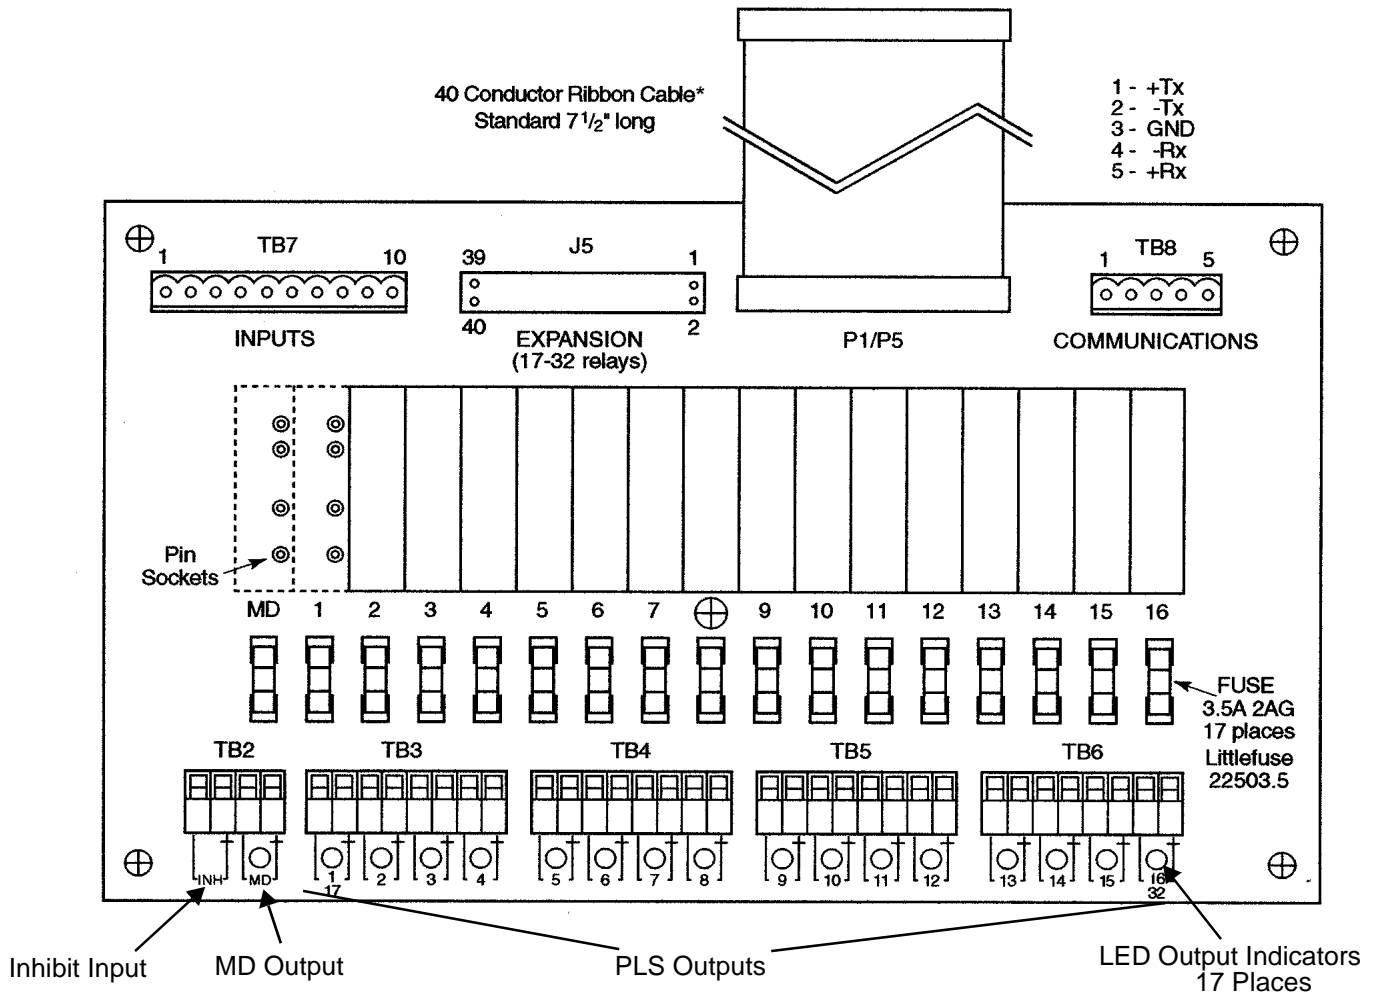

Figure 2.12 RB-1 Relay Board I/O Connections
**PLS Outputs** The location of the connector pins for the 16 PLS outputs is shown in Figure 2.12. Two pins are provided for each output. All the PLS outputs are solid state, open collector sink outputs with a control voltage range of 3 to 24 VDC. Refer to wire code specifications for the correct gauge wire to use for each output. Note that a 3.5 Amp fuse and a LED output indicator is provided for each output channel. The J5 terminal block (available with the “X” hardware option) allows you to plug in the 40 Conductor I/O ribbon cable from another RB-1 board to add another 16 PLS output channels to the iPLC System.
**MD Output** Another two connector pins labeled MD (as shown in Figure 2.12) are provided for the Motion Detector (MD) output. You may enter limit setpoints to turn the MD output either ON or OFF if the speed of the transducer falls between or outside two defined values.
**Inhibit Input** In addition, two connector pins labeled INH (see Figure 2.12) are provided for an Inhibit input. When the inhibit input is an open circuit, all PLS outputs are inhibited or turned OFF. The output channels will operate normally if you short this input.